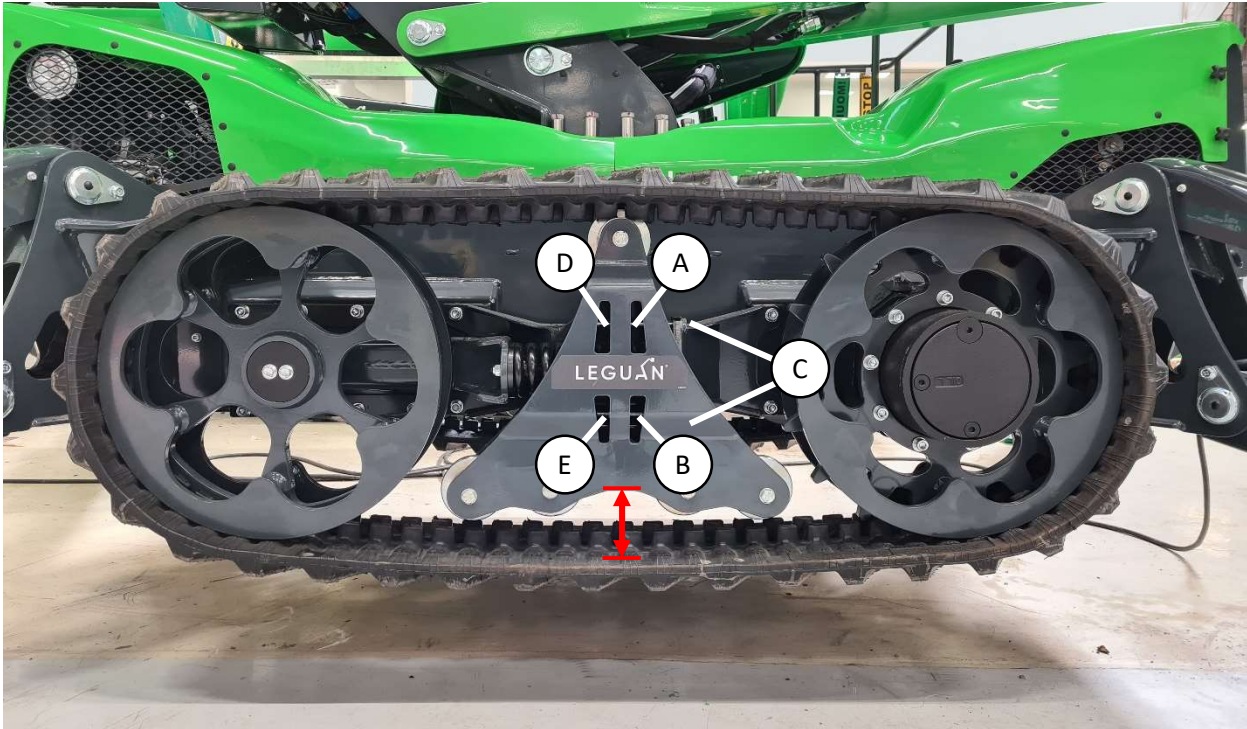

Figure 16. Track tightness adjustment
Raise the access platform off the ground using the outriggers. The tracks should be off the ground minimum 5 cm. Drive backwards a little to have the slack below. The tightness is correct if the gap between the track and the track frame is the same from end to end (marked with red lines in figure 16). The correct gap is 85-90 mm.
The track is tightened with a preloaded spring. To tighten the track, loosen the nuts marked (A) and (B) in figure 16. Then tighten nuts D and E and hold bolts C (or vice versa). This pulls the bolts (figure 16, (C)) and the adjustment plate towards the middle of the track and moves the front track wheel forwards. Tighten the nuts just enough so that the track straightens in relation to the track frame and that the gap is 85-90 mm. Tighten both nuts evenly. After the adjustment tighten the nuts A and B.